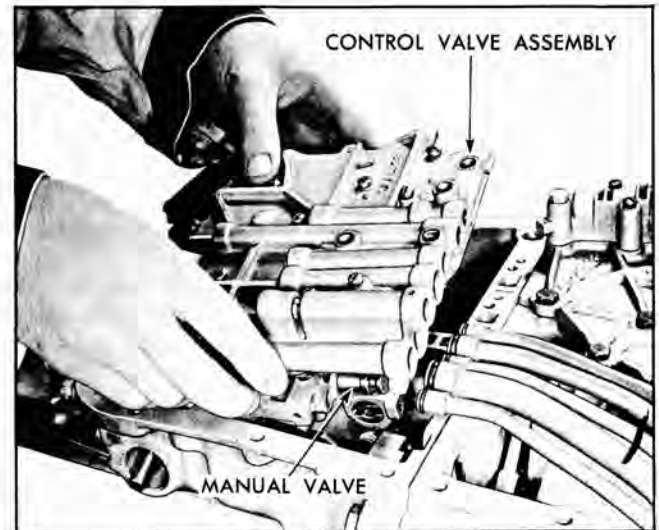

Fig. 138 Installing Control Valve Body
2. Install manual valve in valve body (Fig. 138).
3. Apply petrolatum to valve body pipe ports so not to injure "O" rings and install valve body assembly to rear bearing retainer, guiding T.V. shaft through opening in rear bearing retainer and position manual valve on pick up pin (Fig. 138). Position pipe assembly to index with pipe ports in valve body and move forward to seat pipe seals. Secure valve body assembly with 5 attaching bolts. Torque to 6-8 ft. lbs. If it is difficult to index pipes with valve body ports, loosen the pipe assembly to case cover bolt one-half turn.